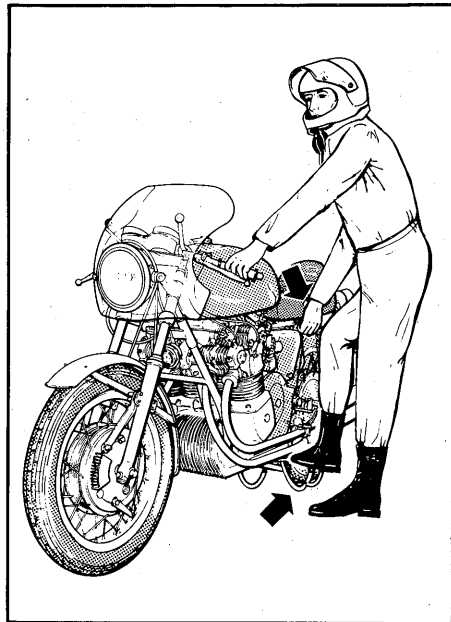

Figure 2-1. Lifting motorcycle on its center stand
To lift the motorcycle, press the protruding arm of the stand with your foot (as shown in figure 2-1), while holding the lifting grip (39, figure 1-2) and the handlebar.
- Place the motorcycle on its center stand (see figure 2-1).
- a. Place the motorcycle on its center stand (see figure 2-1).